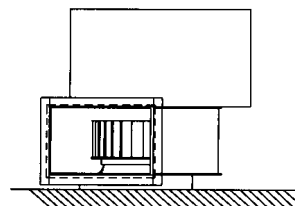

Figure 2
- INLET, OUTLET GUARDS** (Available from Acme as optional equipment) must be installed whenever the fan is installed without ducts attached to the fan inlet and/or outlet and is within seven (7) feet (2.134 m) of working level or when deemed advisable for safety.
- DISCHARGE POSITION ROTATION - FCF SERIES** (ARR. 10) Remove motor enclosure cabinet cover and lay unit down on intake collar. (Figure 2)